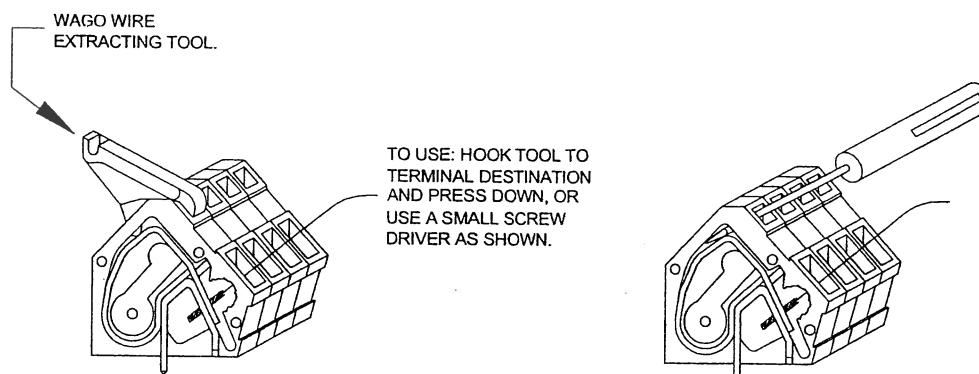

FIGURE 6 – TERMINAL INSTRUCTIONS
- 2.8 INPUT & OUTPUT SIGNALS: Low level and signal cable conductors connect to TB2 or TB3. Both terminal boards are gray in color. Terminals are spring-clamp type and require the use of a small blade type screw driver or an insertion tool – see Figure 6. Terminals are suitable for a conductor range of 22 AWG (0.33 mm²) to 14 AWG (2.1 mm²). Conductor insulation strip length is 0.22" (5.6 mm).